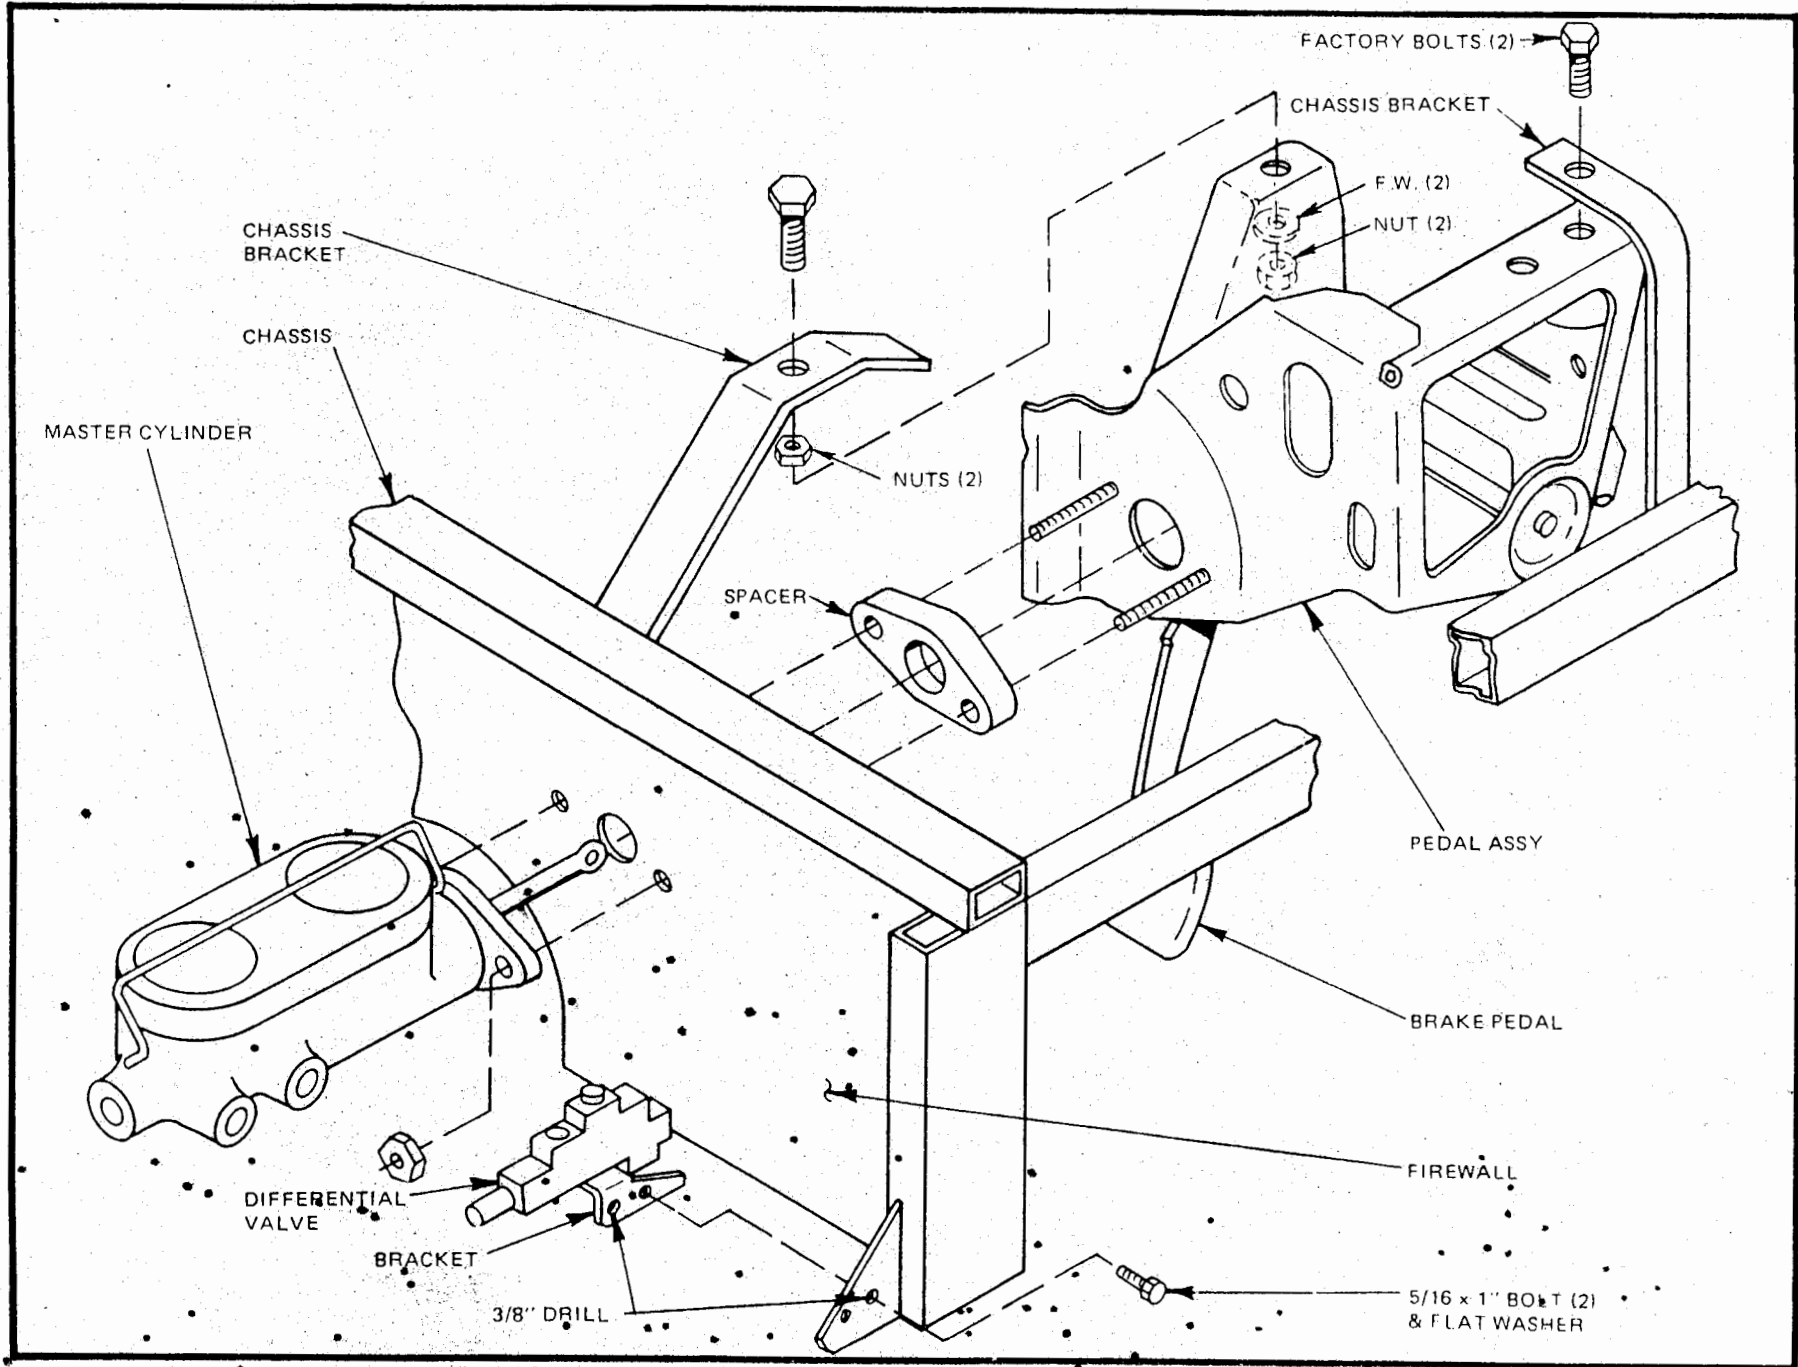

Figure 8
□ Place firewall from the inside of the chassis against the back of the front upright frame members. (Refer to Figure 8). Mark hole locations on frame members. Remove firewall and paint with a good quality rust resistant black paint. Set aside and allow to dry. Drill 11 "3/16" holes through rear of frame uprights and secure firewall to frame with eleven 1/4 x 3/4" hex washer head self-tapping screws. Seal air spaces be-
- Attach brake differential valve to fire wall support brace. Drill 3/8" holes at approximately the location shown and secure with 2 5/16 x 1" bolts with flat washer, lock washer and nuts. (Figure 8) Reattach brake lines to master cylinder.